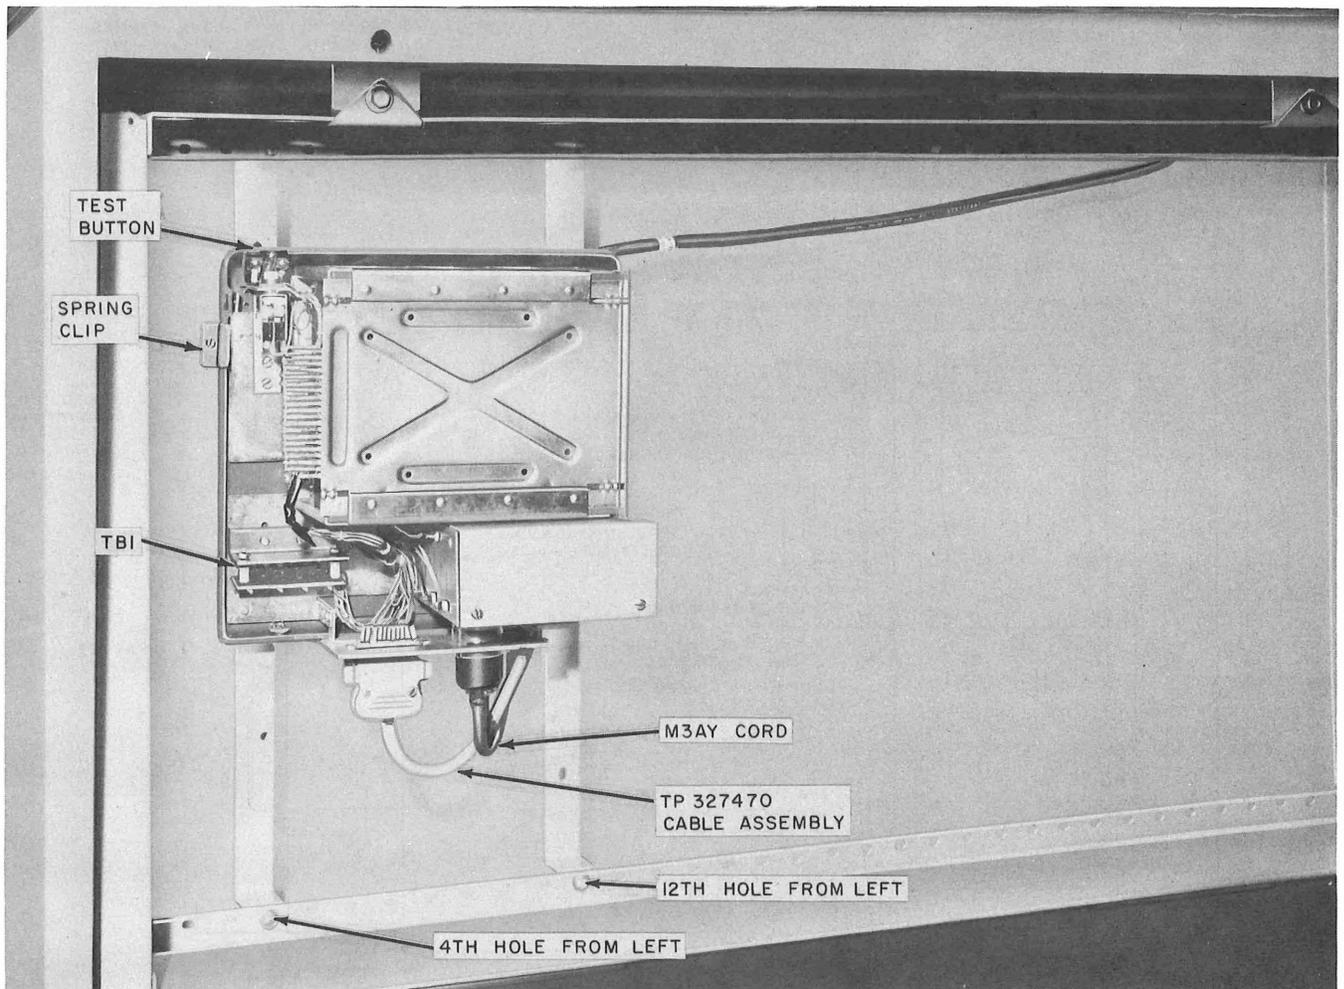

Fig. 1—Data Auxiliary Set 820D-L1A Mounted in a Bell System Model 35 Teletypewriter
2.03 The Data Set 108A- or 108C-type single private line station using DAS 820D-L1A should be installed in the kneewell of a Bell System Model 35 teletypewriter (TTY) or in the right panel of a Model 37 TTY. Procedures for mounting the DAS in a Model 28 TTY must be locally engineered since there is no standard mounting procedure. Refer to Fig. 1.